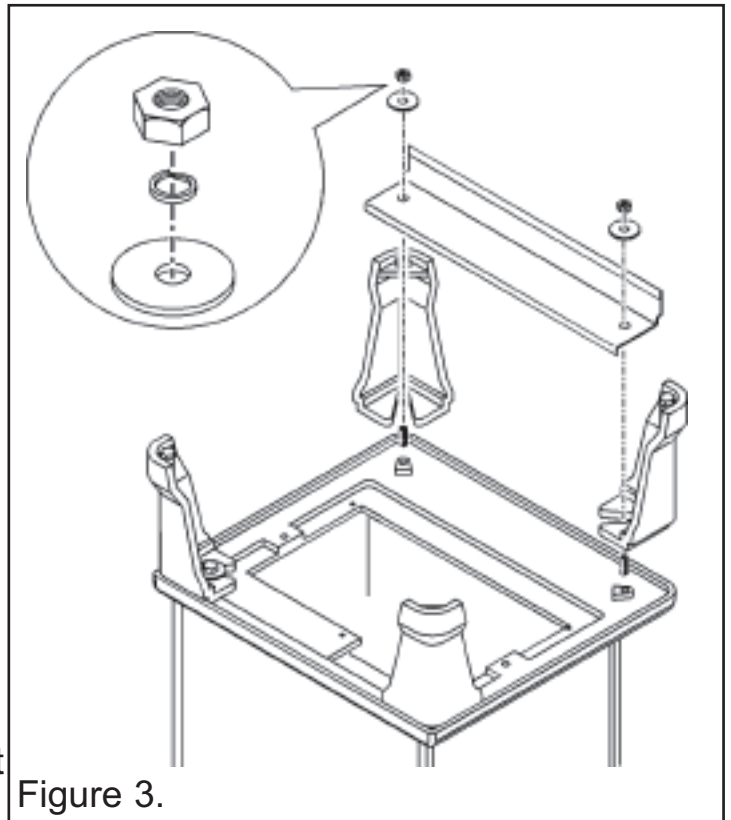

Figure 3.
5.1 Legs and front cover (See figure 3).